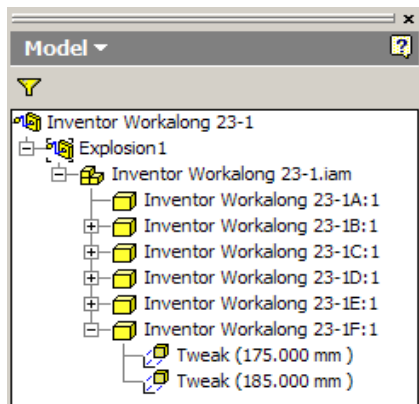

Figure Step 14
Step 14 Look at the Browser bar for the tweak you just created. It will show two tweaks for part Inventor Workalong 23-1F:1, which is the nut. The 175.000 mm tweak was created in the automatic explosion in Step 9 and the 185.000 mm from the manual tweak you just completed. (Figure Step 14)